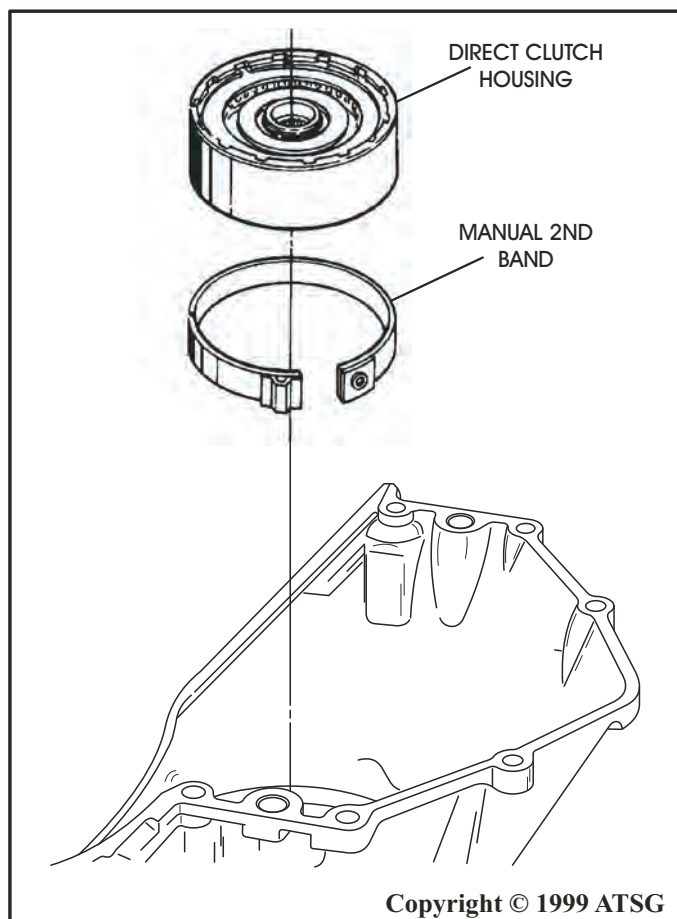

Figure 48
49. Remove the direct clutch housing by lifting straight up, as shown in Figure 48.
51. Remove the manual 2 band from the band lug and remove from case (See Figure 48).